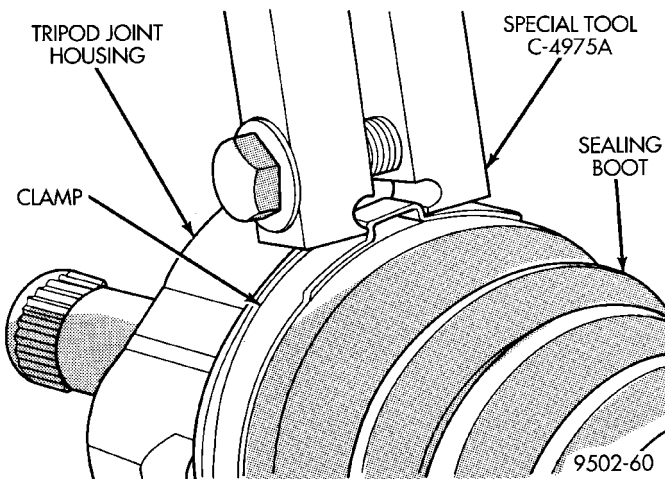
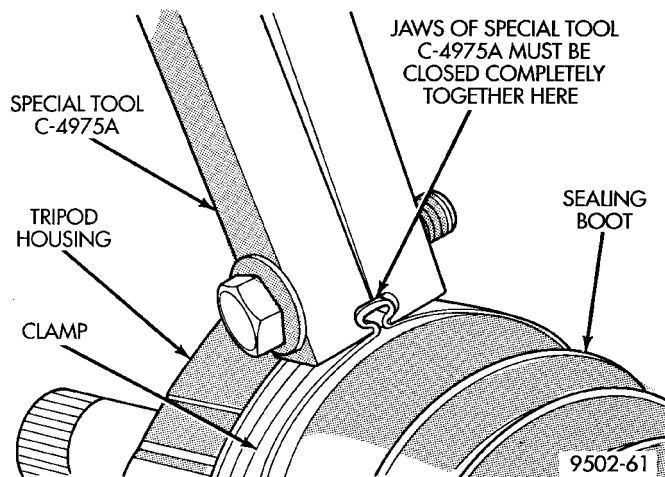

Fig. 40 Crimping Tool Installed on Sealing Boot Clamp
Fig. 41 Sealing Boot Retaining Clamp Installed
(11) Clamp tripod joint sealing boot to tripod joint using required procedure for type of boot clamp application. If seal boot uses crimp type boot clamp, clamp sealing boot onto tripod housing using crimper, Special Tool C-4975-A. Place crimping tool C- 4975-A over bridge of clamp (Fig. 40). Tighten nut on crimping tool C- 4975-A until jaws on tool are closed completely together, face-to-face (Fig. 41).